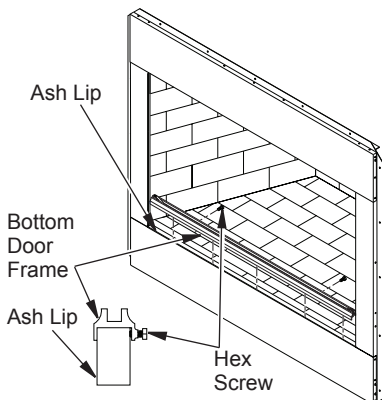

Figure 38 - Installing Bottom Door Frame
3. Place bottom door frame on top of ash lip at front of fireplace (see Figure 38).
4. Secure bottom door frame to brick with two hex screws provided as shown in Figure 38 using a 7/16" open end or adjustable wrench.